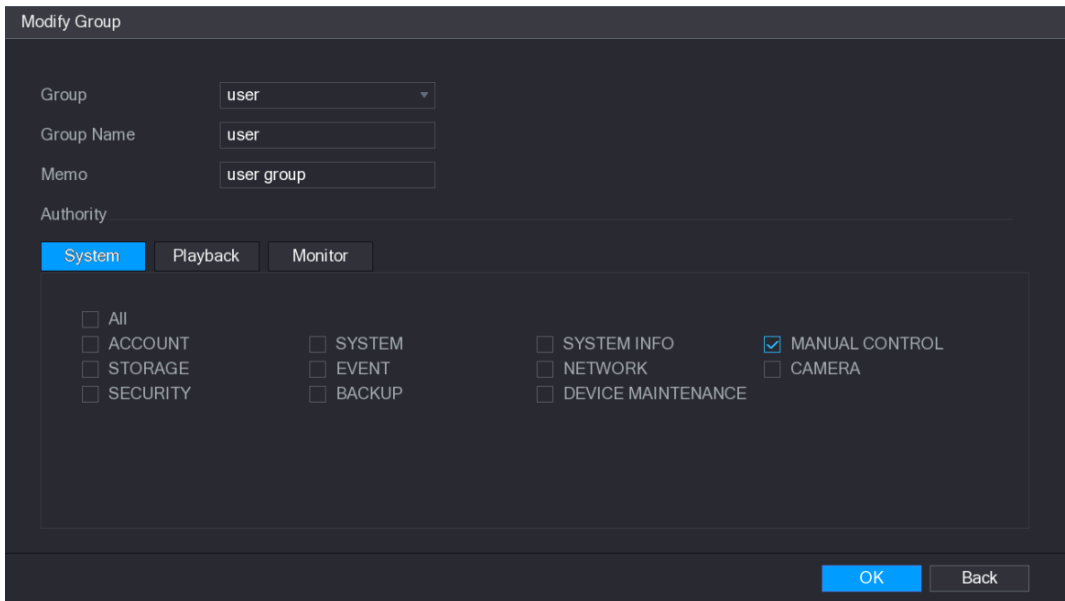

Figure 5-217
Step 3 The **Modify Group** interface is displayed. See Figure 5-217.